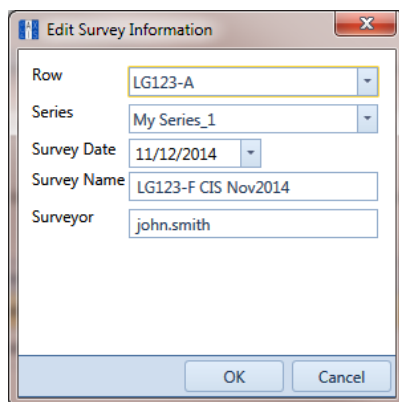

Figure 13-21. Select Facility
- a Click the  pencil button in the *Mark Native* dialog box to open the *Select Facility* dialog box (Figure 13-21).